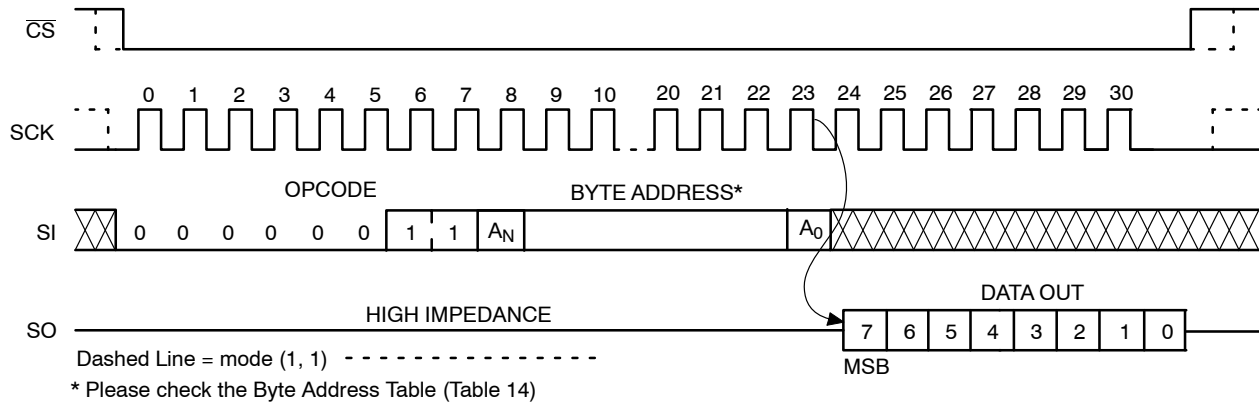

Figure 9. READ Timing
After receiving the last address bit, the CAT25256 will respond by shifting out data on the SO pin (as shown in Figure 9). Sequentially stored data can be read out by simply continuing to run the clock. The internal address pointer is automatically incremented to the next higher address as data is shifted out. After reaching the highest memory address, the address counter “rolls over” to the lowest memory address, and the read cycle can be continued indefinitely. The read operation is terminated by taking $\overline{\text{CS}}$ high.
Reading the additional 64-byte Identification Page (IP) is achieved using the same Read command sequence as used for Read from main memory array (Figure 9). **The IPL bit from the Status Register must be set (IPL = 1) before attempting to read from the IP.** The [A5:A0] are the address significant bits that point to the data byte shifted out on the SO pin. If the $\overline{\text{CS}}$ continues to be held low, the internal